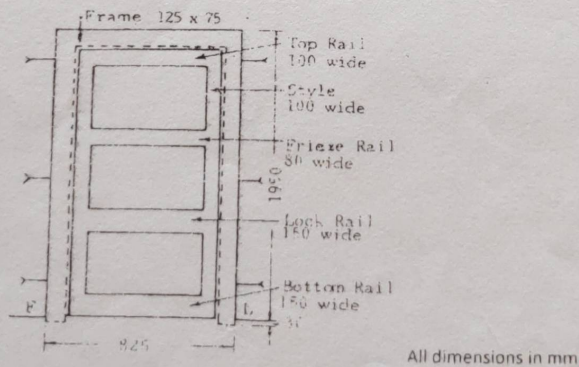

Fig. Q3 (b)
b. Estimate the quantity of timber required for the door shown in Fig. Q3 (b).